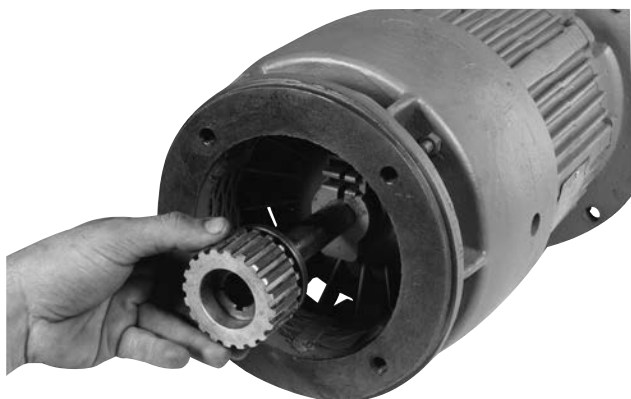

Figure 1
3. Holding the hub so that the capscrew heads are facing the NEMA motor, slide the hub on to the motor shaft. (Figure 1)